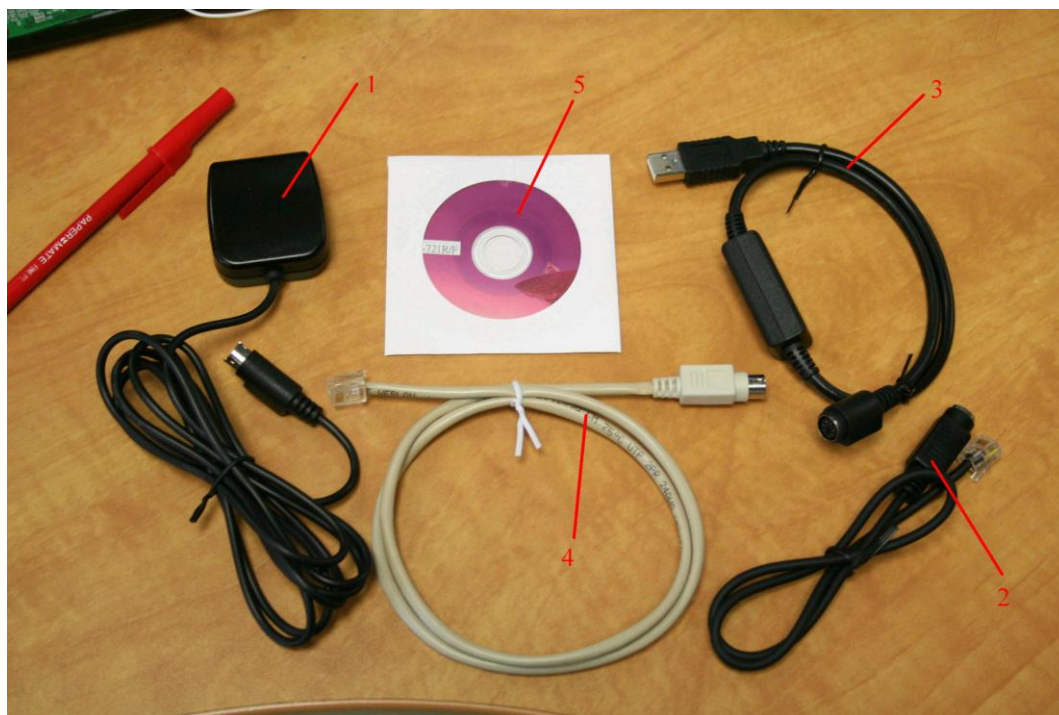

Fig. 1
2. A 50-cm adapter cable, which is used for connecting between SynScan™ GPS mouse and SynScan™ hand control. One end of the cable is a MINI-DIN(F) connector, and the other is a RJ-12, 6-pin connector.
3. A USB to MINI-DIN(F) cable, which allows SynScan™ GPS mouse to be connected to a personal computer via the USB port.
4. A 80-cm adapter cable, which is used for connecting between the USB to MINI-DIN(F) and SynScan™ hand control. With these cables, the hand control can communicate with pc via USB port, which is configured as a COM port. One end of the cable is a MINI-DIN(M) connector, and the other is a RJ-12, 6-pin connector as shown in fig.1.